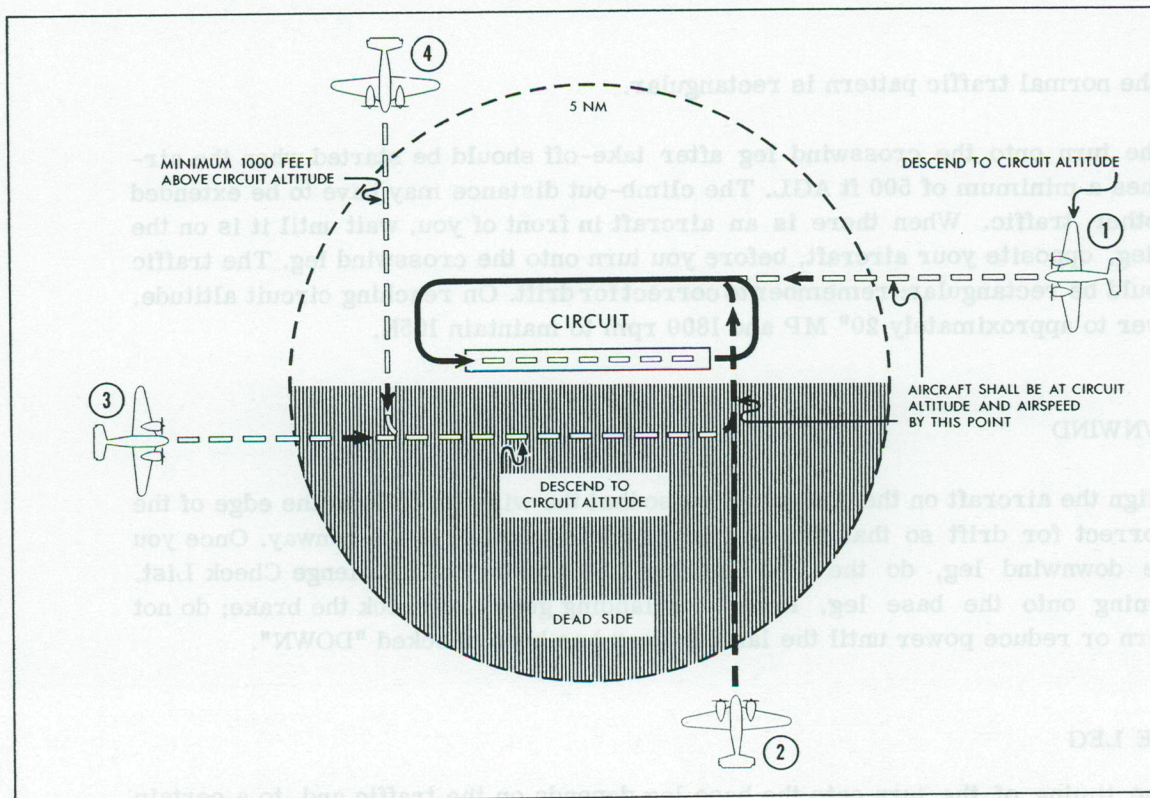

Figure 1. Joining the Circuit
(1) **JOINING THE CIRCUIT** - Before joining the circuit you must obtain landing instructions from the control tower. If there are special circuit-entry procedures in effect at a particular aerodrome, they are usually included in the landing instructions. Figure 1 depicts four common entries to a left-hand circuit. All turns within the circuit area should be in the same direction as those within the circuit. Aircraft Number 1 in Figure 1 is shown joining the circuit on the downwind leg. The other three aircraft are entering the circuit from the dead side well above aircraft which are taking off or over-shooting.
(2) The purpose of a standard circuit entry and pattern is to ensure a safe, orderly flow of a maximum number of aircraft with a minimum of congestion. As shown in